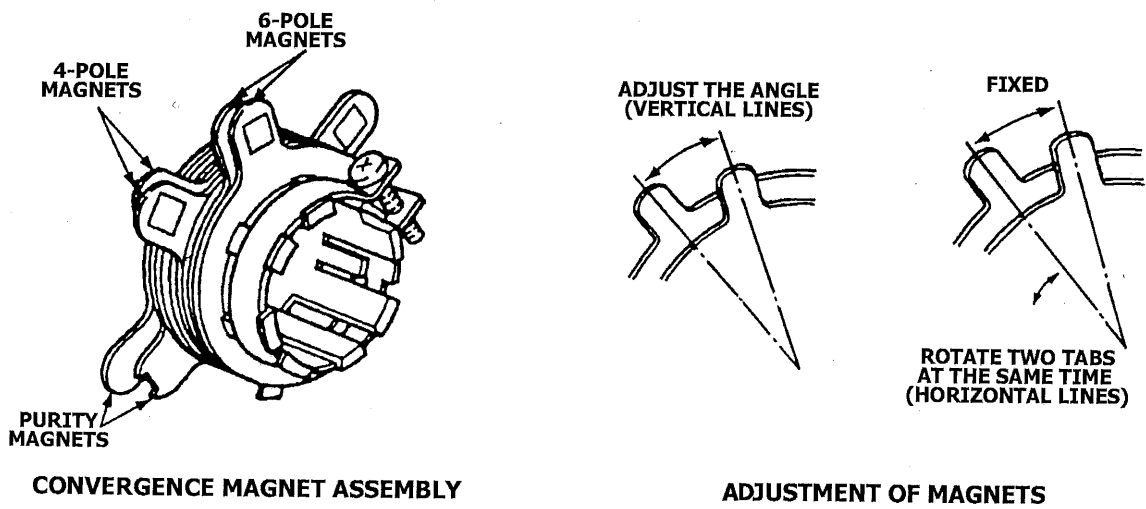

Figure 7
6. Rotate and spread the tabs of the purity magnet (See figure 7) around the neck of the picture tube until the green belt is in the centre of the screen.
3. Adjust two tabs of the 4-Pole Magnets to change the angle between them (See figure 7) and superimpose red and blue vertical lines in the centre area of the picture screen.